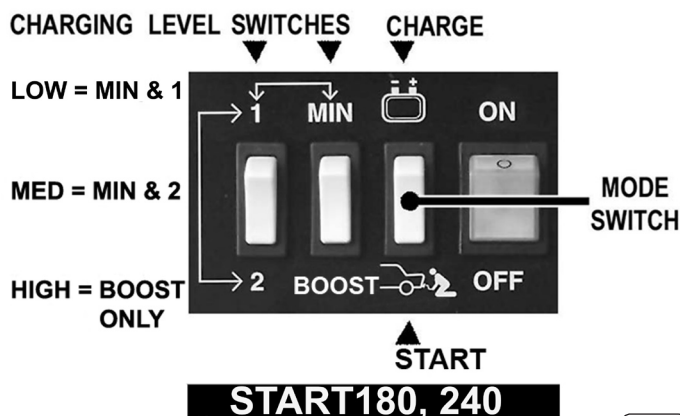

fig.2
- 4.3.2. **START180 & START240** (see fig.2) set the mode switch to the 'charge' function indicated by the battery symbol.
- 4.8.6. Move the starter/charger switch to the 'START' position (see figs.2 & 3). Turn the vehicle ignition on and crank the engine for a MAXIMUM of 3 seconds. If the vehicle does not start, wait 120 seconds and then try again to a maximum of 5 cycles.